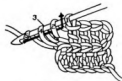

FIGURE 67
*Double Crochet* (Figure 67).— Make a chain of stitches the desired length. Skip three chains,\* thread over hook and insert in next chain, thread over hook and pull through chain, thread
A two-inch safety pin with openings at both ends, large enough to allow a bone crochet needle to enter, should be used as a base for the pin. The leaves are made by chain stitching seven stitches and then by going back and double crocheting (Figure 67) into each of the seven stitches. Without cutting the thread, make another leaf in the same manner. Draw the last stitch through the hole at the end of the closed safety pin. Make as many stitches